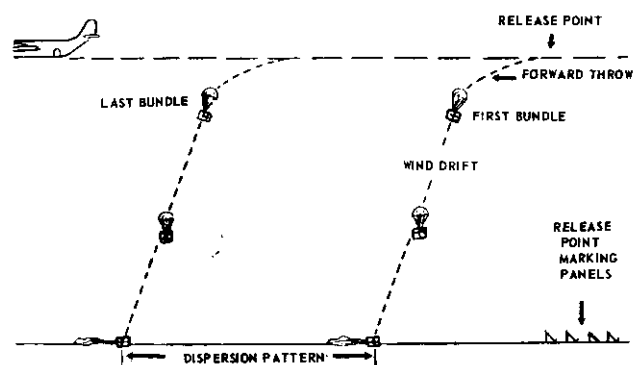

Figure 23. Computation of dispersion.
1. Dispersion occurs when two or more personnel or containers are released consecutively from an aircraft in flight. The long axis of the landing pattern is usually parallel to the direction of flight (figure 23).